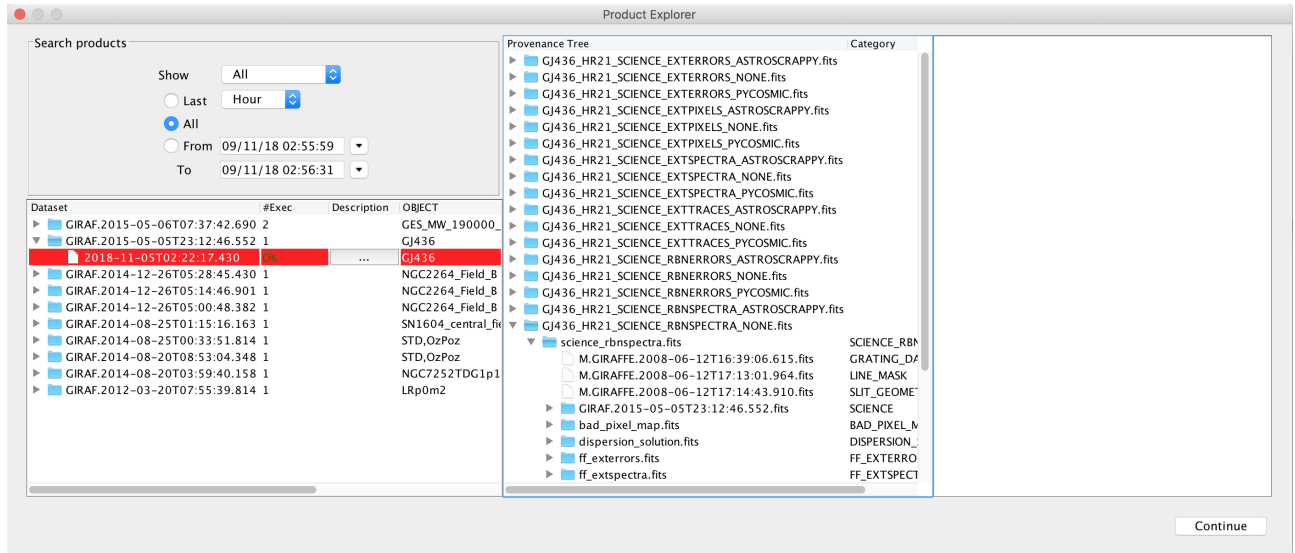

Figure 3.11: The Provenance Explorer shows all datasets reduced in previous executions together with the full reduction chain for all the pipeline products.
23. Once the reduction of all datasets has finished, a pop-up window called *Product Explorer* will appear, showing the datasets which have been reduced together with the list of final products. This actor allows the user to inspect the final data products, as well as to search and inspect the input data used to create any of the products of the workflow. Figure 3.11 shows the *Product Explorer* window. A full description of the *Product Explorer* will be presented in Section 6.3.3.